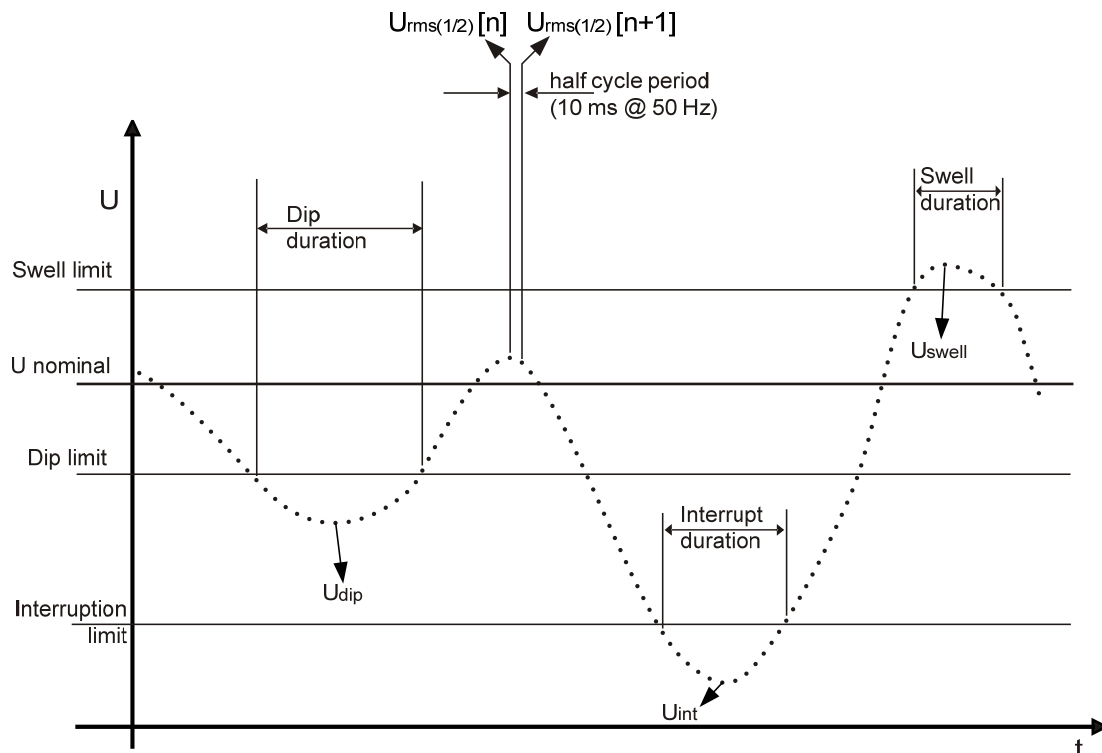

Figure 5.6 Voltage events definition
- On single-phase systems, a voltage dip begins when the $U_{Rms(1/2)}$ voltage falls below the dip threshold, and ends when the $U_{Rms(1/2)}$ voltage is equal to or above the dip threshold plus the 2% of hysteresis voltage (see Figure 5.6)
- on single-phase systems, a voltage swell begins when the $U_{Rms(1/2)}$ voltage rises above the swell threshold, and ends when the U_{Rms} voltage is equal to or below the swell threshold plus the 2% of hysteresis voltage (see Figure 5.6),
- On single-phase systems, a voltage interruption begins when the $U_{Rms(1/2)}$ voltage falls below the voltage interruption threshold and ends when the $U_{Rms(1/2)}$ value is equal to, or greater than, the voltage interruption threshold plus the hysteresis (see Figure 5.6),